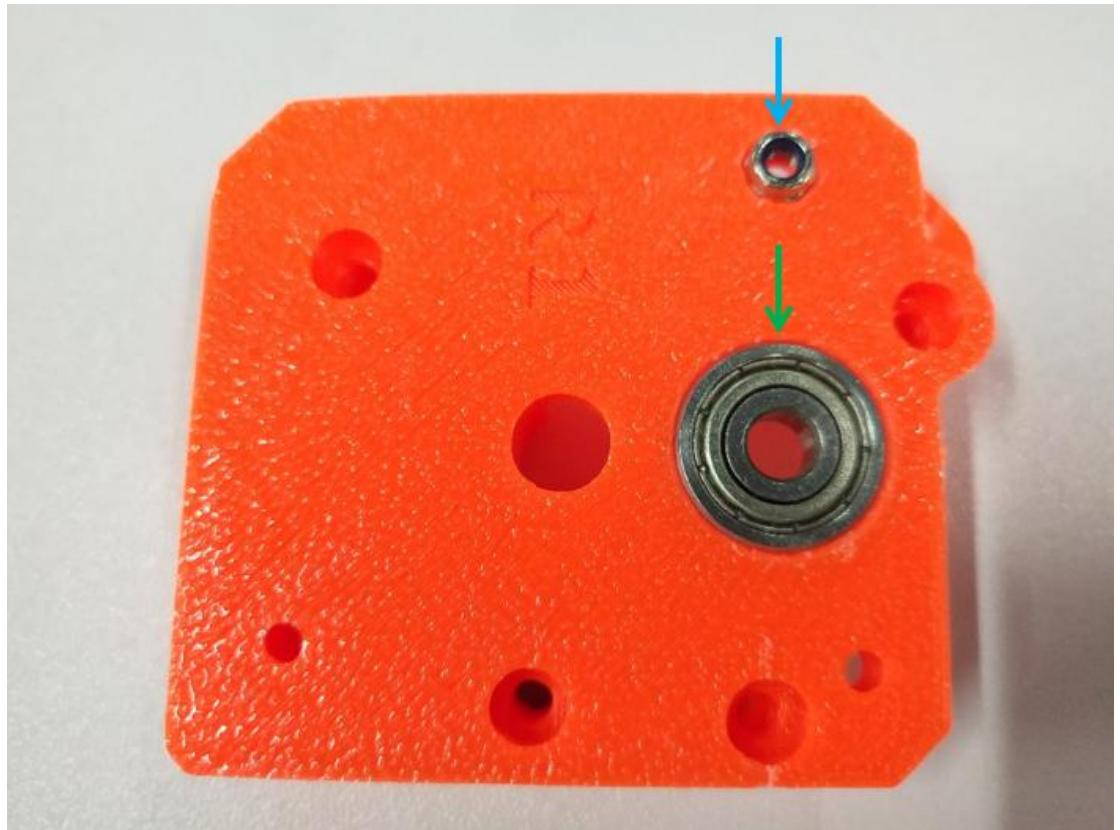

Figure 2.3.3
**Step 2-3-3:** As shown in Figure 2.3.3, insert an M3 lock nut and a 625ZZ bearing into the notch on the MINI-extruder-rear. Note that the end face of the bearing must be flush with the end face of the print.